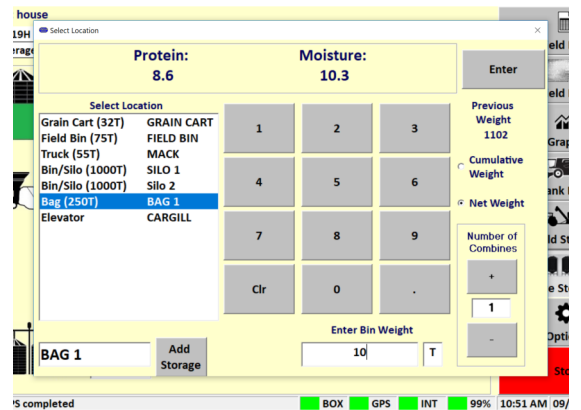

Figure 3-18. Grain Logistics Grain Tank Weight Counter.
- (Optional) Enter the max Tank Weight for each Crop Type. When a Default Tank Weight is entered the Grain Logistics Software will populate the nominated default tank weight into the Tank Weight Counter as shown in figure 3.18.